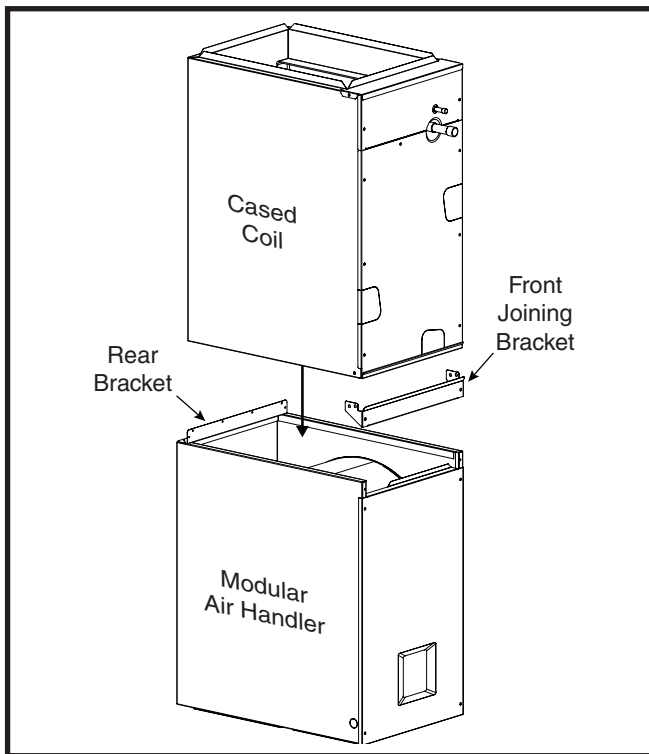

Figure 4. Downflow Brackets
4. Carefully place the cased coil on top of the modular air handler. **NOTE:** Make sure the units are flush in the front and on the sides with a "step" fit in the back and that there are no gaps on the sides. See Figure 4 (page 7).